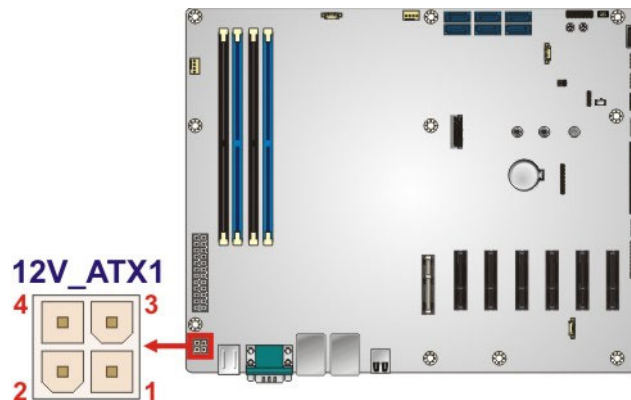

Figure 3-2: +12V ATX Power Connector Location
- CN Location:** See **Figure 3-2**